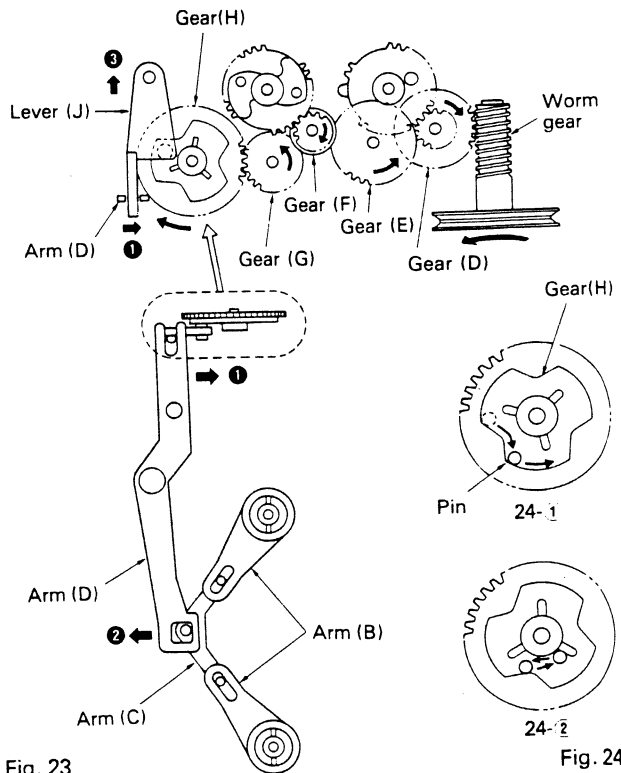
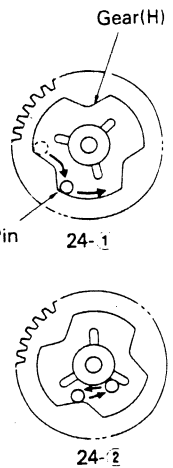

Fig. 23
Fig. 24
6. In Figure 23, arms (B), (C) and (D) are at rest. However, the motor is driving a worm gear, which transfers motion to gear E through gears (D~G). The pin on lever (J) moves along the outside cam of gear (H) (Figure 24-1). However, at this point, because the tape is not yet running, arm (B) is motionless. Therefore, when the pin reaches the protruding section of gear (H), arm (D) moves in the direction of arrow 1.
7. As a result of the movement of arm (D), arms (B) and (C) shift in the direction indicated by arrow 2. At this point, because the reels are not moving, arms (B) and (C) will not
move in the direction opposite that indicated by arrow ②. Consequently, because arm (D) also is motionless, the pin on lever (J) shifts to the inside cam of gear (H) (Figure 24-②), and lever (J) begins to shift in the direction of arrow ③ (Figure 23).